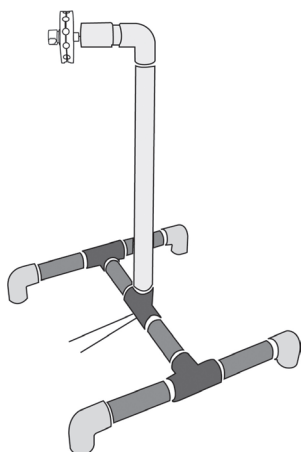

Figure 1: Completed turbine tower. NEED Exploring Wind Energy: Teacher guide (pg 23)
For younger groups or compressed workshop times, have the base built before the class begins the activity. See Figure 1.
- Make sure the Nacelle is securely placed on top of the tower. The tower should look like Figure 1.